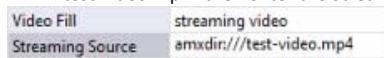

Fig. 168 TPDesign5 - Streaming Source (State) property
10. For the *Streaming Source* property, enter the filename of the video file with **amxdir:///** as the prefix. For example, if the video filename is "test-video.mp4" then enter the Streaming Source as "amxdir:///test-video.mp4" (FIG. 168):